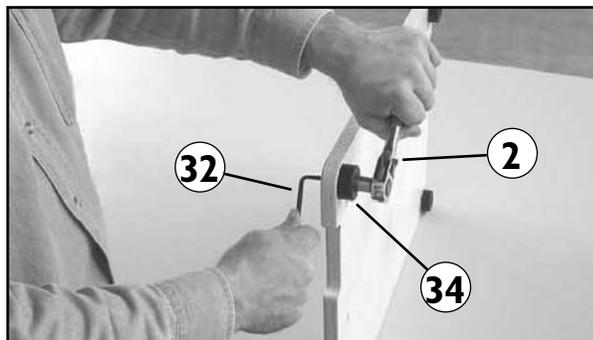

Fig. 5
5. Attach the four rubber feet (34) to base panel (2). **Fig 5**. Insert the “T” nuts (22) into the four large holes in the base panel (2). Locate the head of the “T” nut on the top side of the base panel. The bottom of the base panel has countersink holes, the top does not. Insert a 1/4-20 x 3/4" hex head bolt (14) through the rubber feet, and thread into “T” nut, as shown. Tighten using the 3/16" hex wrench (31) and a 7/16" socket. Do not overtighten.